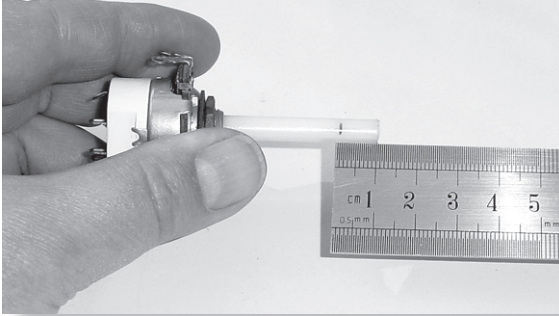

FIGURE 6.13 Measure from the stem end to the mark.
- **REMOVE** the control knob, and measure the distance from the end of the stem to the mark (Figure 6.13)